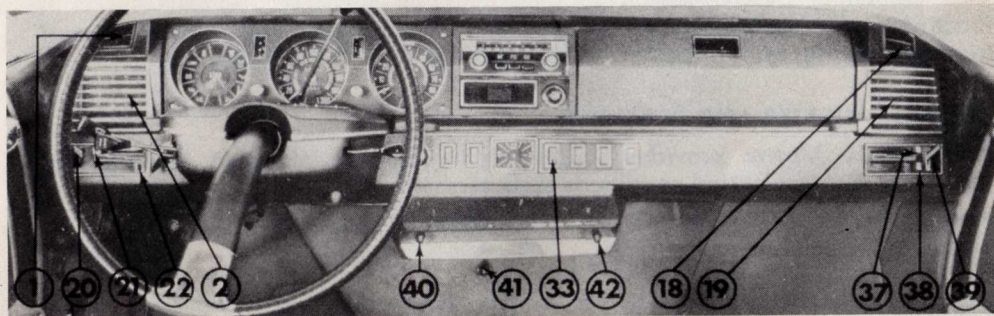

fig. 42
To control the flow of fresh air, use the levers **21** and **37** (fig. 42).
To divert the fresh air, use the levers **20** and **39** (fig. 42.)
- Moved to the left, the levers **22** and **38**, increases the flow of air (fig. 42).
The lever 42 fig. 42 varies the amount of air entering the car through the heating system. Moved to the left, the greatest volume of air enters car; toward the right, the smallest volume of air enters: Moved to extreme right, no air enters.
NOTE: It is inadvisable to use the blower when following a vehicle emitting excessive exhaust smoke. At each end of the dashboard additional outlets 1 and 18 fig. 42 serve to defrost or demist the front door windows.